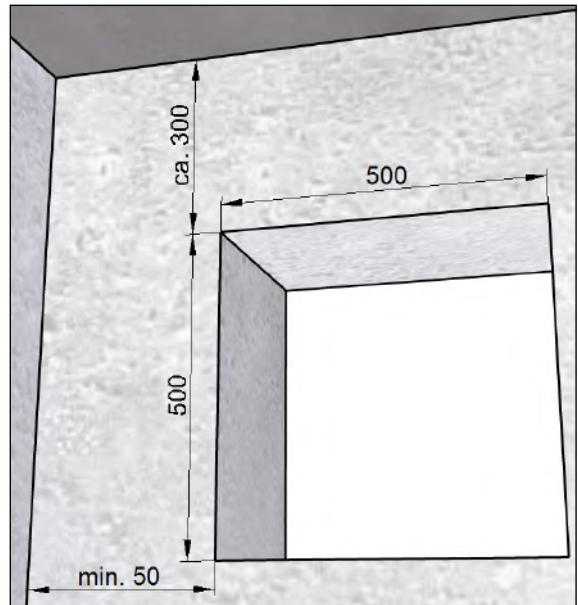

Fig. 11: Wall breakthrough for installation kit **with** filler piece, dimensions in millimetres
- Complete wall breakthrough (see Fig. 11 auf page 18) for installation kit **with** filler piece M-WRG-M/Fü